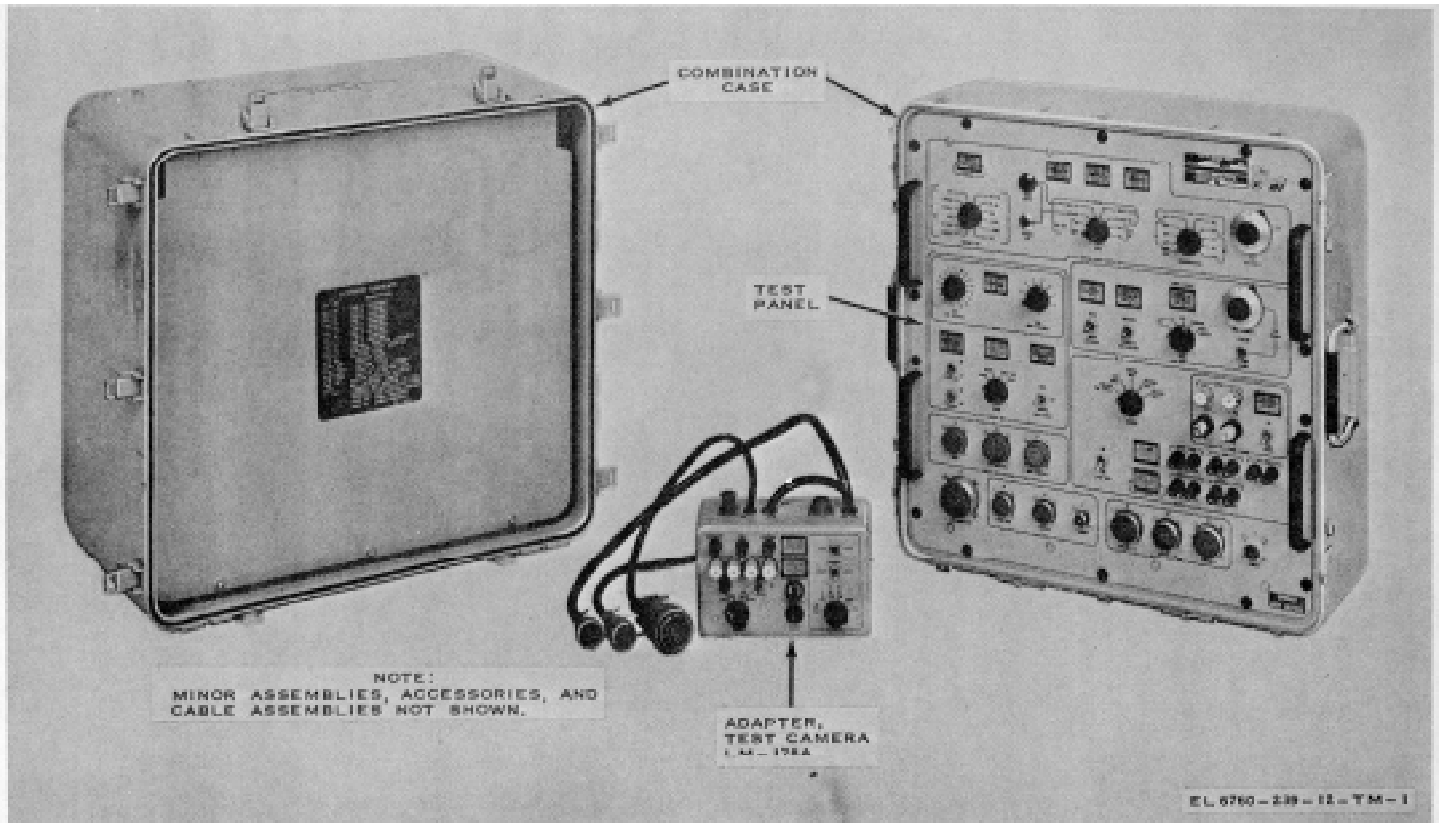

Figure 1-1. Test Set, Analyzer, Camera LS-80A.
a. This manual describes Test Set, Analyzer, Camera LS-80A (figs. 1-1 through 1-3), and provides instructions for installation, operation, and operator's and organizational maintenance. It includes instructions for operation under usual and unusual conditions, cleaning and inspection of the equipment, and replacement of parts available to the operator and organizational maintenance repairman.
(figs. 1-1 through 1-3)